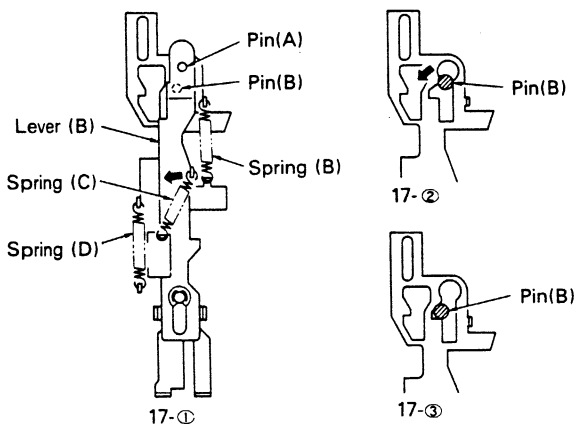

Fig. 17
2. The reason why simultaneous depression of the FF lever and the REW lever causes lever(B) to move is as follows: When the FF lever and REW lever are depressed simultaneously, spring (C) pulls lever (B) in the direction indicated by the arrow (Figure 17-①). Pin (B) on lever (B) then falls into indentations in the FF lever and the REW lever (Figure 17-③), moving from the position indicated in Figure 17-②. If either the FF lever or REW lever is depressed independently, pin (B) will not fall into the indentations and lever (B) will not move.